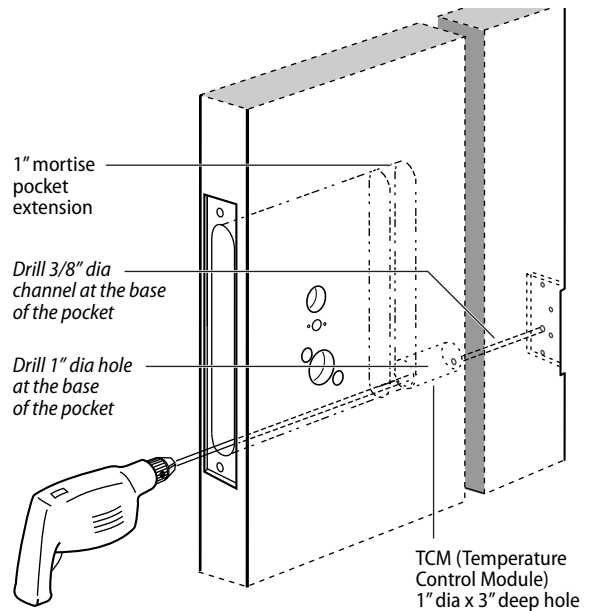
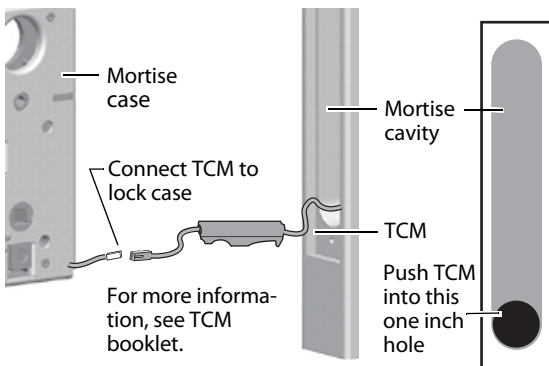

Figure 4 Drilling the wire channel through the door
Figure 11 Connecting and positioning TCM
- 2 Extend the mortise pocket one inch as shown in Figure 4.
- 3 Drill a one inch diameter \times three inch long hole at the base of the mortise pocket as shown in Figure 4.
- 4 Using a 3 to 4 foot drill bit, drill a 3/8" diameter channel from the base of the one inch diameter hole at the base of the mortise pocket to the center of the nearest hinge mortise as shown in Figure 4.
- 1 Connect the Temperature Control Module (TCM) to the lock as shown in Figure 11.
- 2 Fish the TCM wires through the door channel, making sure to position the TCM inside the one inch diameter hole extension at the base of the mortise cavity as shown in Figure 11. See also Figure 4.